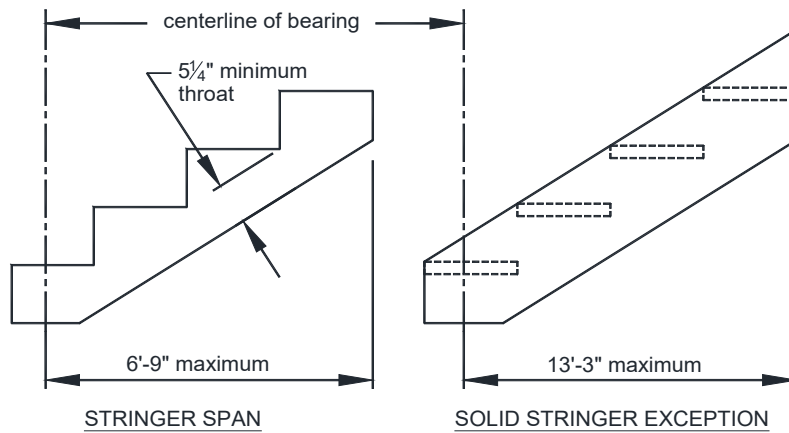

FIGURE 38: MAXIMUM STRINGER SPAN LENGTH
- Stringer span length is measured using the horizontally projected distance between the bearing at each end and shall not exceed the dimensions shown in FIGURE 38.
SOLID STRINGER EXCEPTION: Solid stringers of stairways with a width equal to 36 inches shall be permitted to have a span as shown in FIGURE 38.
- Throat size of cut stringers shall not exceed the value shown in FIGURE 38.